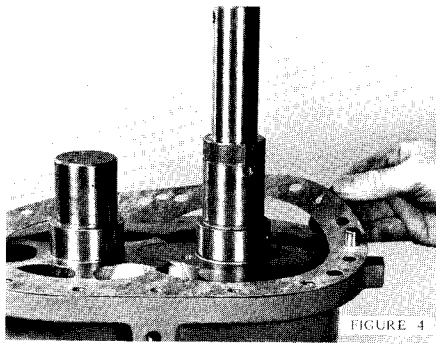

FIGURE 4
- Lay the fiber gasket on the face of the cylinder – make sure the contour of the gasket matches the cylinder, Figure 4.